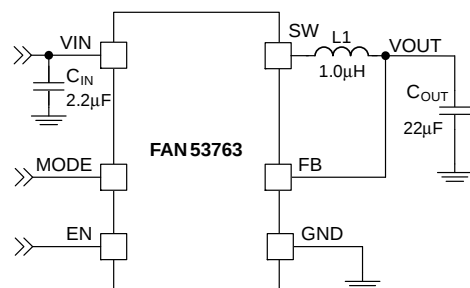

Figure 1. Typical Application
**Table 8. SYSTEM CHARACTERISTICS** Recommended operating conditions, unless otherwise noted,  $V_{IN} = 2.3\text{ V}$  to  $5.5\text{ V}$ ,  $T_A = -40^\circ\text{C}$  to  $+85^\circ\text{C}$ ,  $V_{OUT} = 1.8\text{ V}$ . Typical values are given at  $T_A = 25^\circ\text{C}$ ,  $V_{IN} = 3.6\text{ V}$ . System characteristics are based on circuit per Figure 1.  $L = 1.0\text{ }\mu\text{H}$ ,  $2.3\text{ A}$ ,  $107\text{ m}\Omega$  DCR, DFE160810S-1R0M (Murata),  $C_{IN} = 1 \times 2.2\text{ }\mu\text{F}$ ,  $6.3\text{ V}$ , 0402 (1005 metric), C1005X5R0J225M050BC (TDK) and  $C_{OUT} = 1 \times 22\text{ }\mu\text{F}$ ,  $6.3\text{ V}$ , 0603 (1608 metric), C1608X5R0J226M080AC (TDK).
Unless otherwise specified,  $V_{IN} = 3.6\text{ V}$ ,  $V_{OUT} = 1.8\text{ V}$ , Auto Mode,  $T_A = 25^\circ\text{C}$ ; circuit and components according to Figure 1 and Table 2.